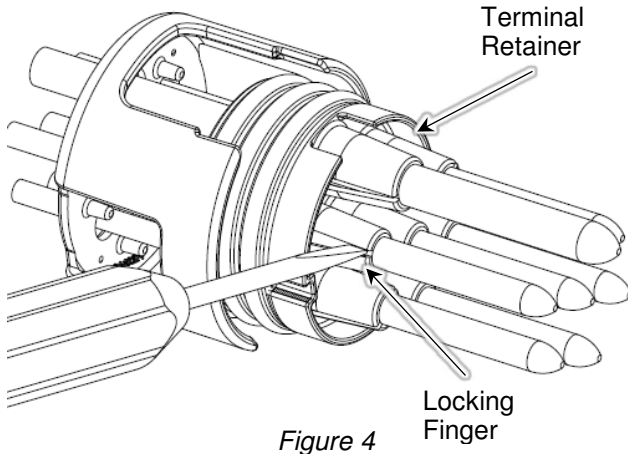

Figure 4
2. Repeat (1) for the other side of the end cap. Take care that the first side does not snap back in place.
4. To remove an individual terminal, insert a small flat blade screwdriver into the slot in the desired cavity of the terminal retainer. Twist the screwdriver to open the locking fingers, and at the same time pull the terminal rearward. It is also acceptable to push the terminal from the front. Remove the terminal fully from the retainer, grommet and end cap. See Figure 4.